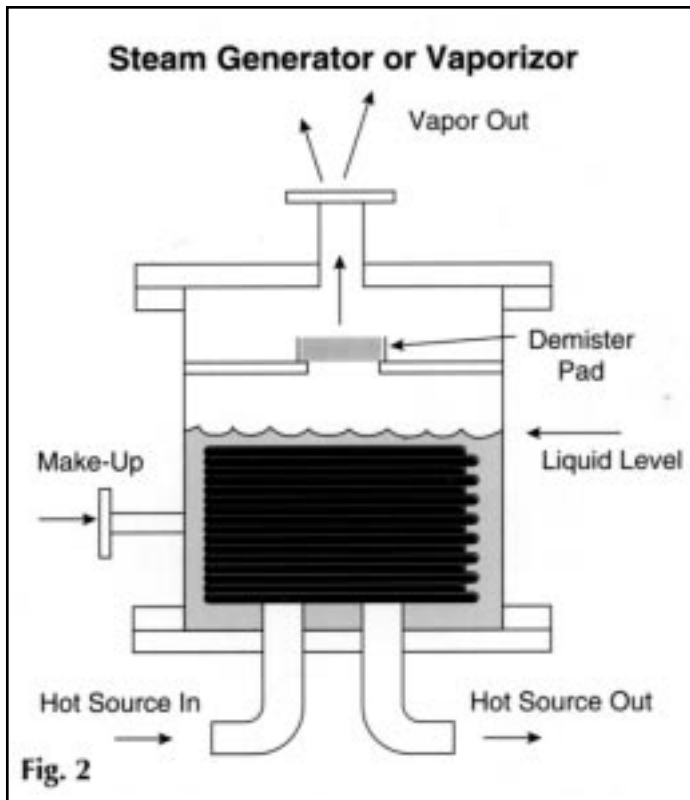

Fig. 2
- Vaporizer design for liquid vaporization and droplet disengagement (Fig. 2).
*Vaporizer design of a helical heat exchanger for liquid evaporation and droplet disengagement. (Fig. 2)*